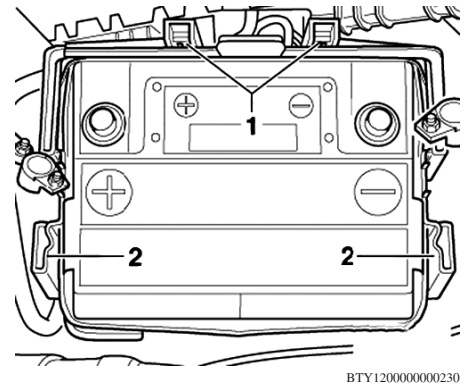

Fig. 14 Clipped fuse holder installation
8. Clip fuse holder mountings into battery box (1 and 2), **Fig. 14**.